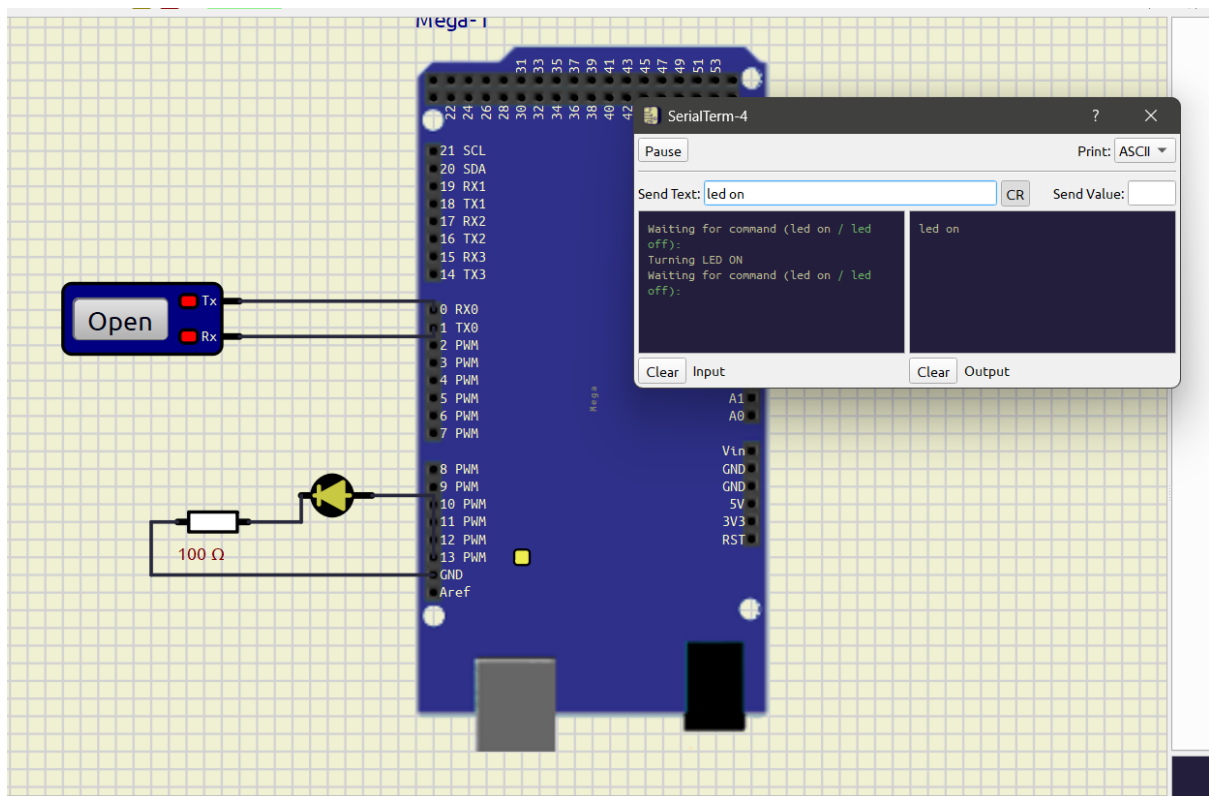

Figure 8: LED turned on after receiving "led on" command
3. Figure 8 illustrates the LED turned on after receiving the "led on" command.